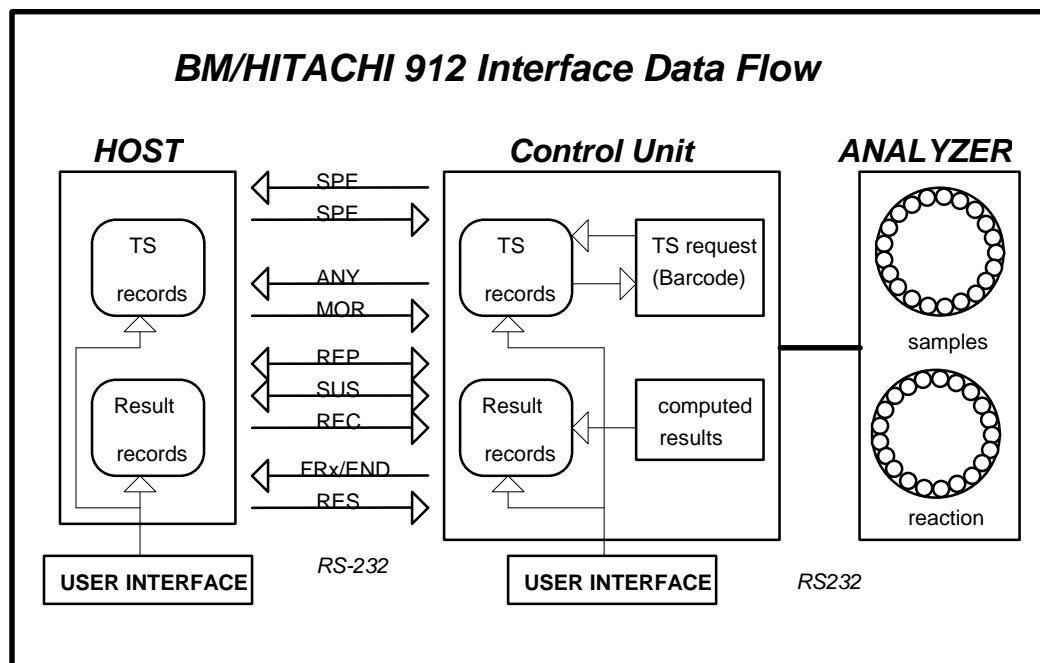

Figure 1: BM/HITACHI 912 Interface data flow
Figure 1 gives an general idea of the 912 interface data flow between the analyzer, the control unit (CU) and the host system. More detailed description will be found in this document.